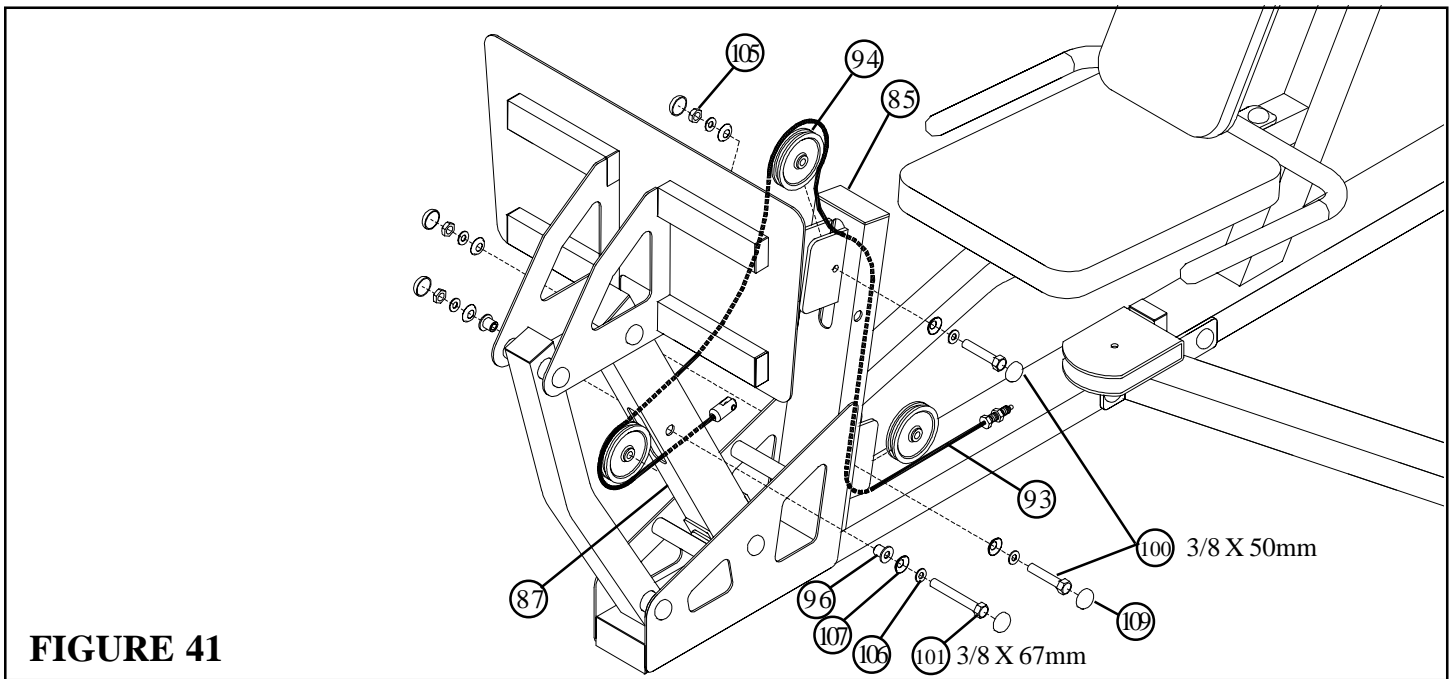

FIGURE 41
- Route the LEG PRESS CABLE (93) through the MAIN PIVOT ARM (87) and assemble one 4-1/2 PULLEY (94) to the MAIN PIVOT ARM (87) using two RH CAPS (109), one 3/8 X 67mm BOLT (101), two 3/8 X 1/2 FLANGE SPACERS (96), two 3/8 SAE WASHERS (106), two 3/8 RH WASHERS (107) and one 3/8 LOW HEIGHT LOCK NUT (105) as shown in FIGURE 41.
- Route the LEG PRESS CABLE (93) between the upper bracket and through the tube on the LEG PRESS FRAME (85) and assemble one 4-1/2 PULLEY (94) to the FRAME (85) using two RH CAPS (109), one 3/8 X 50mm BOLT (100), two 3/8 SAE WASHERS (106), two 3/8 RH WASHERS (107) and one 3/8 LOW HEIGHT LOCK NUT (105) as shown in FIGURE 41.
- Route the LEG PRESS CABLE (93) between the lower BRACKETS on the LEG PRESS FRAME (85) and assemble one 4-1/2 PULLEY (94) to the FRAME (85) using two RH CAPS (109), one 3/8 X 50mm BOLT (100), two 3/8 SAE WASHERS (106), two 3/8 RH WASHERS (107) and one 3/8 LOW HEIGHT LOCK NUT (105) as shown in FIGURE 41.